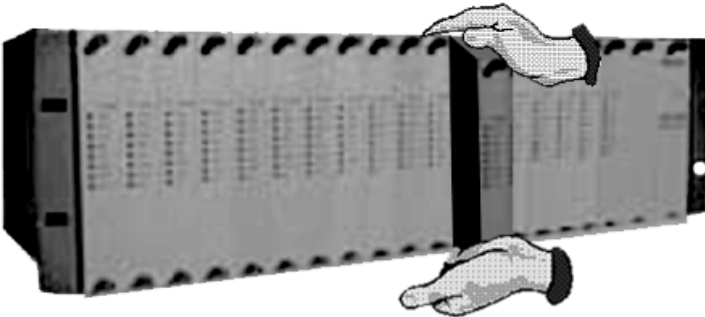

Figure 2-3. Installing the Modem
5. Install the modem into the selected slot in the Universal Data Shelf (see Figure 2-3).